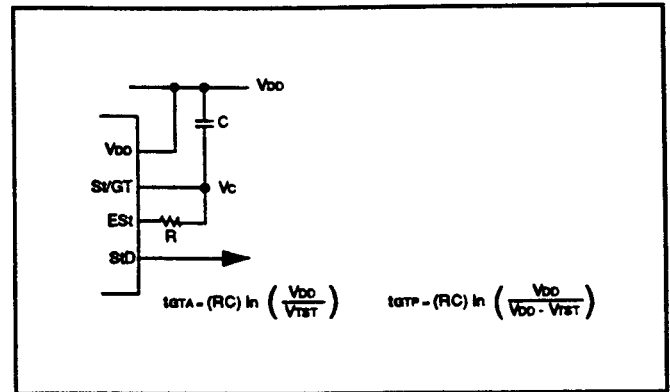

Figure 3 Basic Steering Circuit
Before a decoded tone pair is registered, the receiver checks for a valid signal duration (referred to as "character-recognition-condition"). This check is performed by an external RC time constant driven by ES_t. A logic high on ES_t causes V_C (see Figure 3) to rise as the capacitor discharges. Provided that signal condition is maintained (ES_t remains high) for the validation period (GT_F), V_C reaches the threshold (V_{TSt}) of the steering logic to register the tone pair, thus latching its corresponding 4-bit code (see Table 5) into the output latch. At this point, the GT output is activated and drives V_C to V_{DD}. GT continues to drive high as long as ES_t remains high. Finally, after a short delay to allow the output latch to settle, the "delayed steering" output flag (StD) goes high, signaling that a received tone pair has been registered. The contents of the output latch are made available on the 4-bit output bus by raising the three-state control input (OE) to a logic high. The steering circuit works in reverse to validate the interdigit pause between signals. Thus, as well as rejecting signals too short to be considered valid, the receiver will tolerate signal interruptions (dropouts) too short to be considered a valid
Where independent selection of receive and pause are not required, the simple steering circuit of Figure 3 is applicable. Component values are chosen according to the formula:
| Tone present detection time | tDP | 5 | 8 | 14 | ms | See Figure 3 |